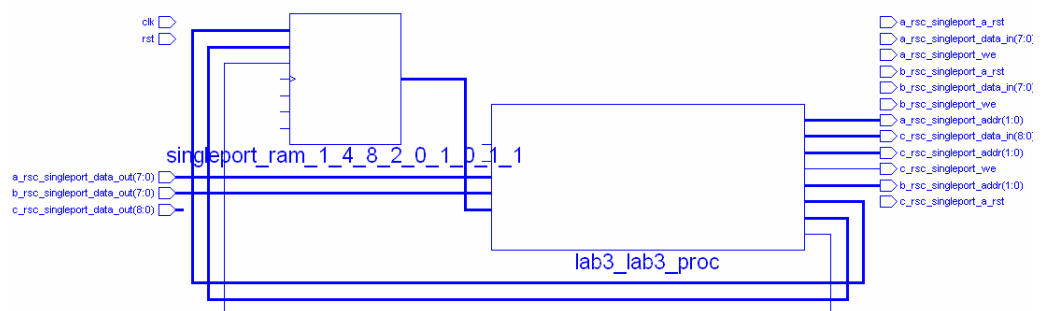

Figure 3 Datapath Schematic
- ✓ Click on the “Generate RTL” icon in the design bar. Double click on the Datapath Schematic icon (Figure 3).